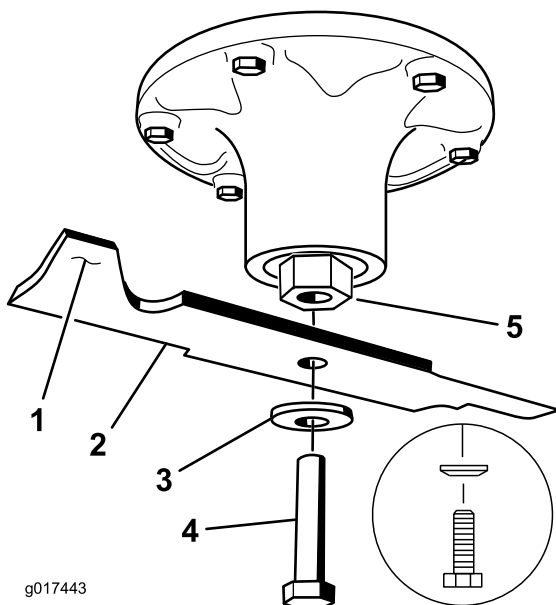

Figure 92
2. Remove the blade bolt, curved washer, and blade from the spindle shaft (Figure 92).
1. Install the blade onto the spindle shaft (Figure 92).
2. Install the curved washer and blade bolt (Figure 92).